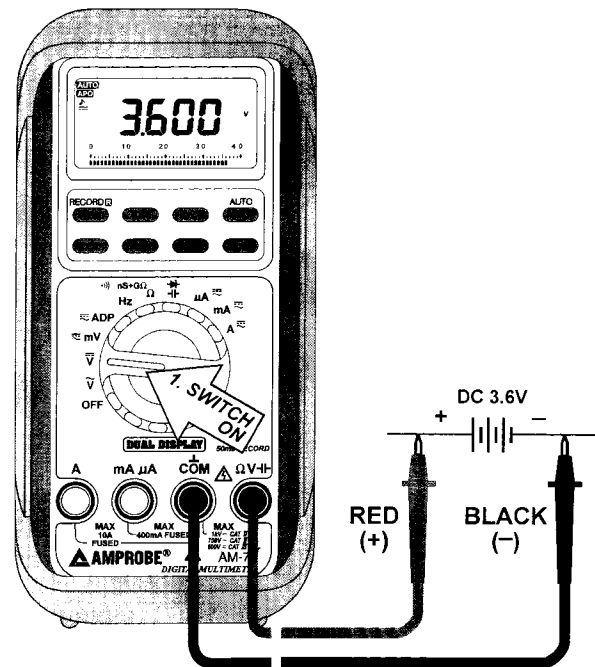

FIG 3. DC VOLTAGE FUNCTION
- 3) Connect test leads to voltage source and observe the digital display, see **FIG 3**